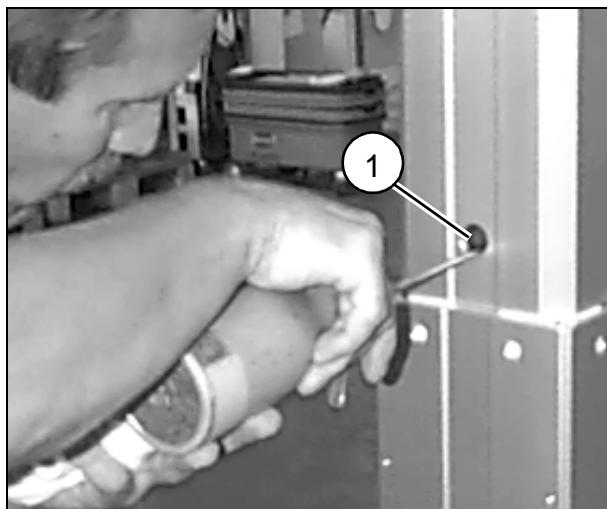

Fig. 3
- Apply 230V (N an X7 A/1 and phase at X7 A/2) and move the lifting column as far up as possible until the drilled hole for lubrication is accessible (1/Fig.3).
- Remove the plastic cap in the drilled hole (1/Fig.3) and lubricate the lifting spindle through the opening. Refill enough oil so that you can test the oil level with your finger. Use Viscogen KL 300, item number 73 95 353.